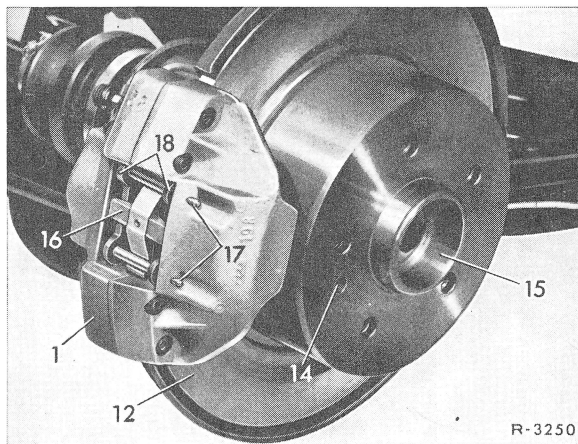

Fig. 13
15 On Teves-caliper, mount cross spring (16) and knock holding pins (17) into brake caliper (Fig. 13).